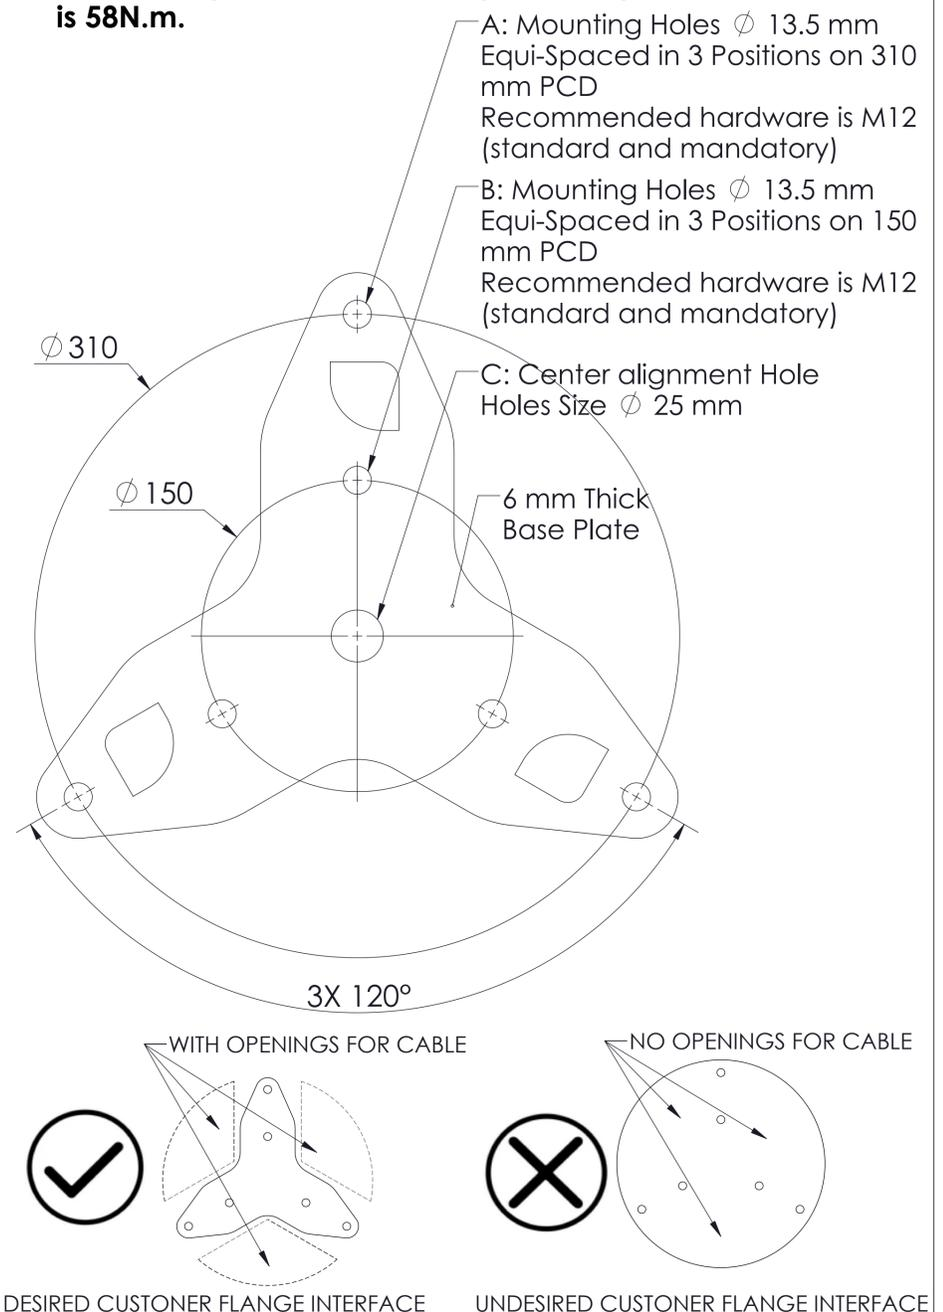
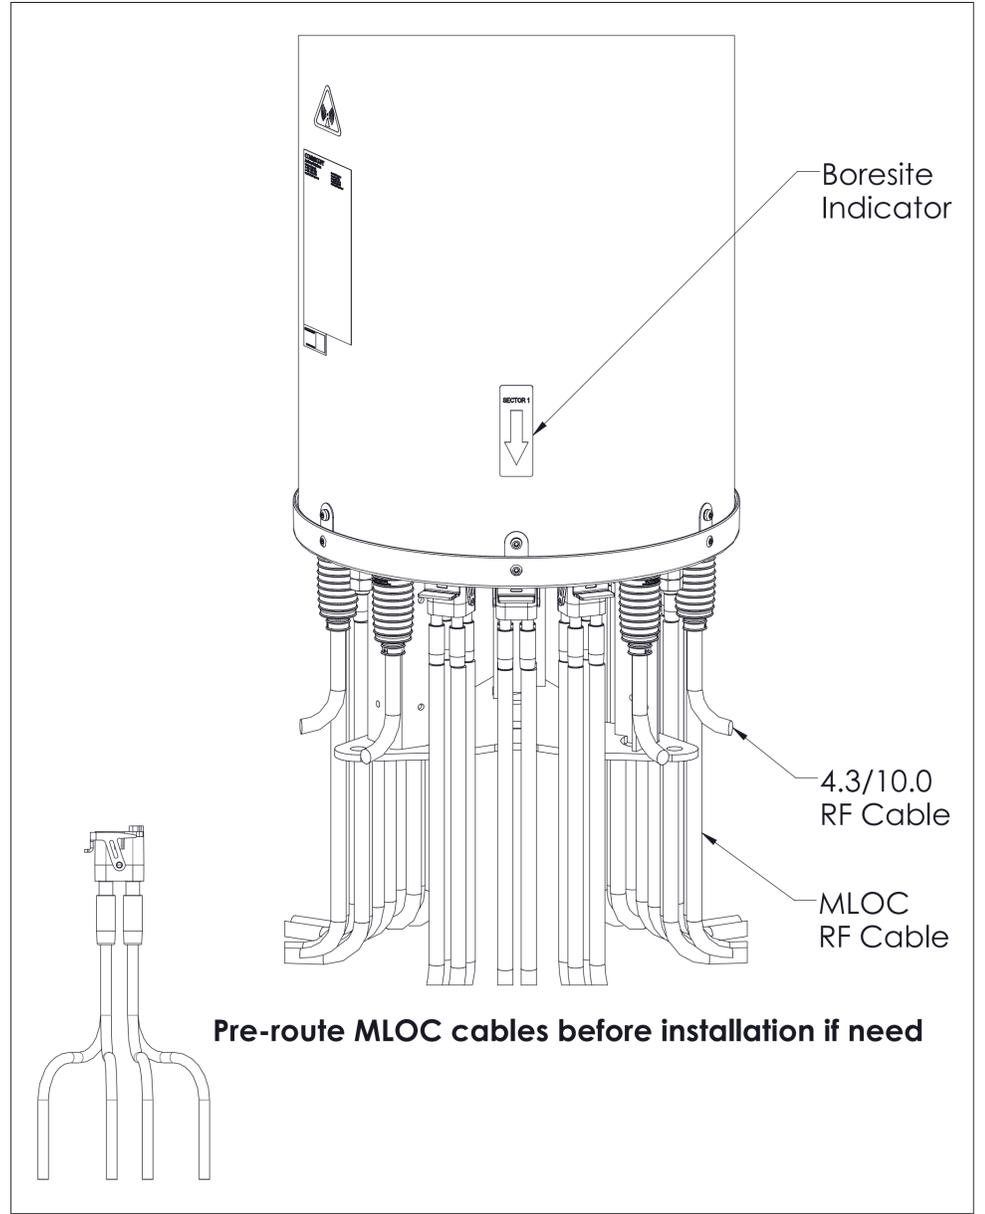

Figure 2. Mounting Interfaces on Base Plate Viewed From Bottom Side of Antenna
Figure 4. Routing Cables
1. Refer to Figures 2, 3 and 4 for mounting and boresite alignment. It is recommended that the mounting holes be marked and made ready in the mounting surface prior to installing the antenna.
The boresite of each antenna sector is shown by the boresite indicator (featured in Figure 4). The direction of each antenna must be considered prior to mounting to ensure desired performance.
3. Attach the RF cables to the antenna input connectors per jumper cable installation instruction. Connectors can be 4.3/10.0 or MLOC on this type antenna, torque to 5-8 Nm for 4.3/10.0 type, refer to 7841814 for MLOC jumper installation. (Figure 4).
Route RF cable along metal rails, etc. as much as possible, to enhance noise and lightning immunity. The antenna base provides openings that can be used to route cable through the base when mounting on a monopole (Figure 2). Also, customer prepared mounting flange must provide these openings and certain cable extend length for cable routing, especially for MLOC jumper cables (Refer to 7841814 for details). If cannot achieve these extend length, every cable on MLOC cluster cable set need to be pre-routed one by one per FSJ1P-50A instruction and actual installation scenario before installing to connector. (Figure 4)